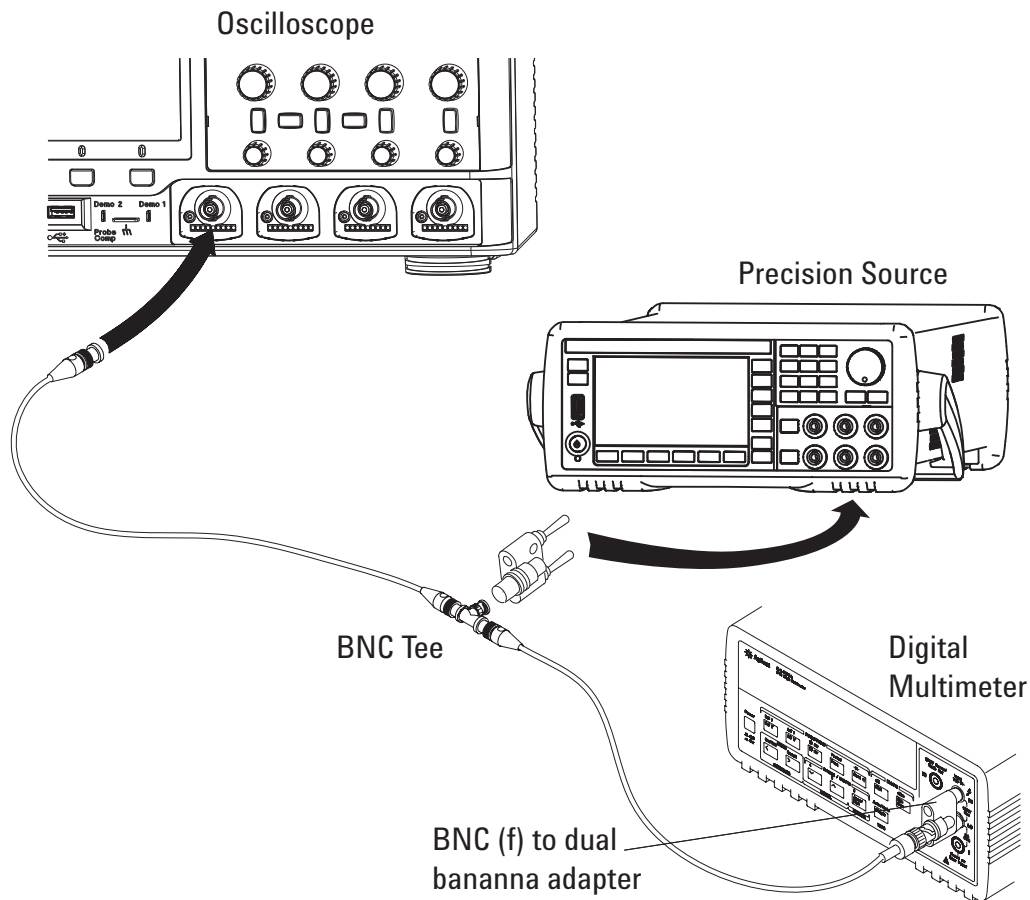

Figure 5 Setting up Equipment for Dual Cursor Accuracy Test
- 5** Use the BNC tee and cables to connect the precision source /power supply to both the oscilloscope and the multimeter (see **Figure 5**).